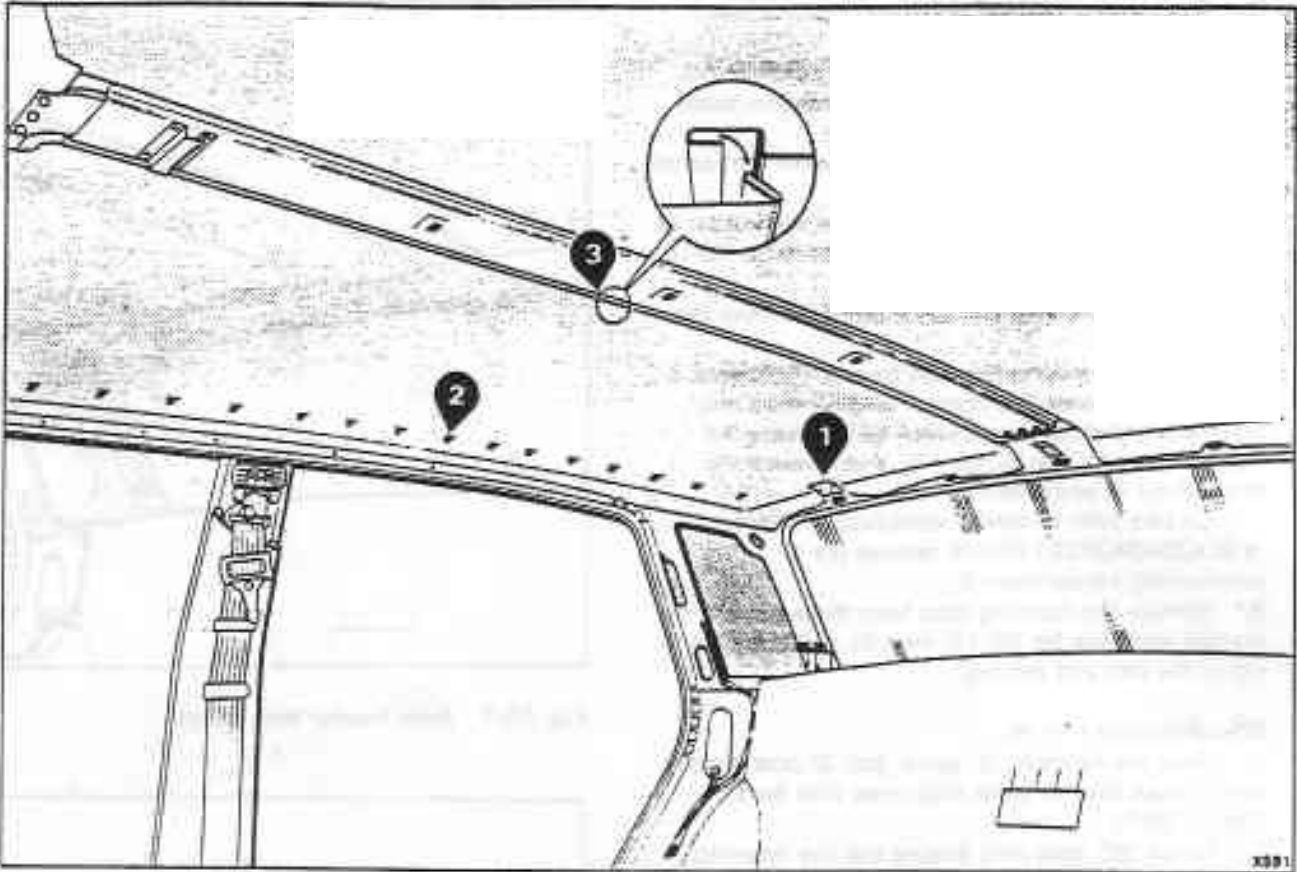

Fig. S8-9 Removing the headlining
22. From above the rear window, drill out the pop rivets and remove the two outer header trim securing brackets (see fig. S8-9, item 1).
23. Unclip the headlining from the sides (see fig. S8-9, item 2). Peel back the headlining, slide back each nylon strip from its channel (item 3) and remove both pieces of headlining.
8. Press the headlining clips into position along the cantrails (see fig. S8-9, item 2).